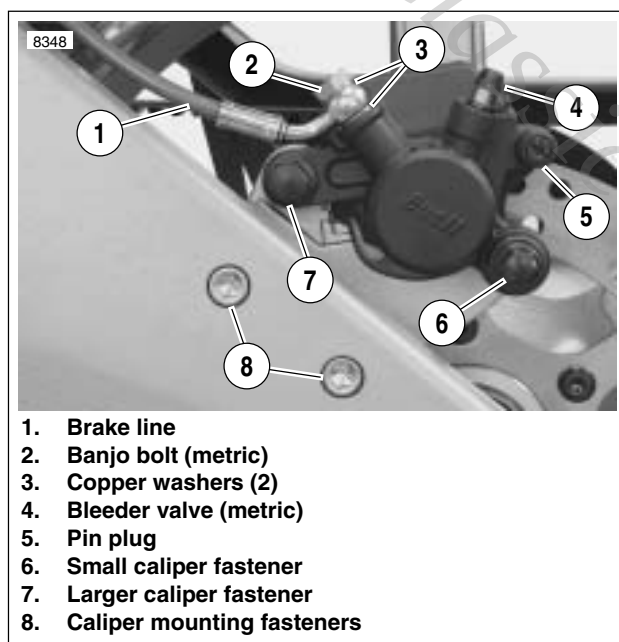

Figure 2-57. Rear Brake Caliper
4. See Figure 2-57. Connect brake line switch connector underneath seat. See D.1 HOSE AND WIRE ROUTING for brake line routing.
3. See Figure 2-57. Remove caliper mounting fasteners (6 and 7).
1. See Figure 2-57. Remove pin plug (5) and pad hanger (metric) to free brake pads.
2. See Figure 2-57. Install caliper assembly on caliper mount. Brake pad surfaces must face rear brake rotor.
- a. Install large caliper screw (7) (metric) tightening to 18-21 ft-lbs (24-28 Nm).
- b. Install small caliper screw (6) (metric) tightening to 14-18 ft-lbs (19-24 Nm).
- c. Install caliper carrier onto swingarm tightening caliper carrier fasteners (8) to 24-26 ft-lbs (33-35 Nm).
3. See Figure 2-57. Connect brake line (1) to caliper using two **new** copper washers (3) and banjo bolt (2) (metric). Tighten to 16-20 ft-lbs (22-27).